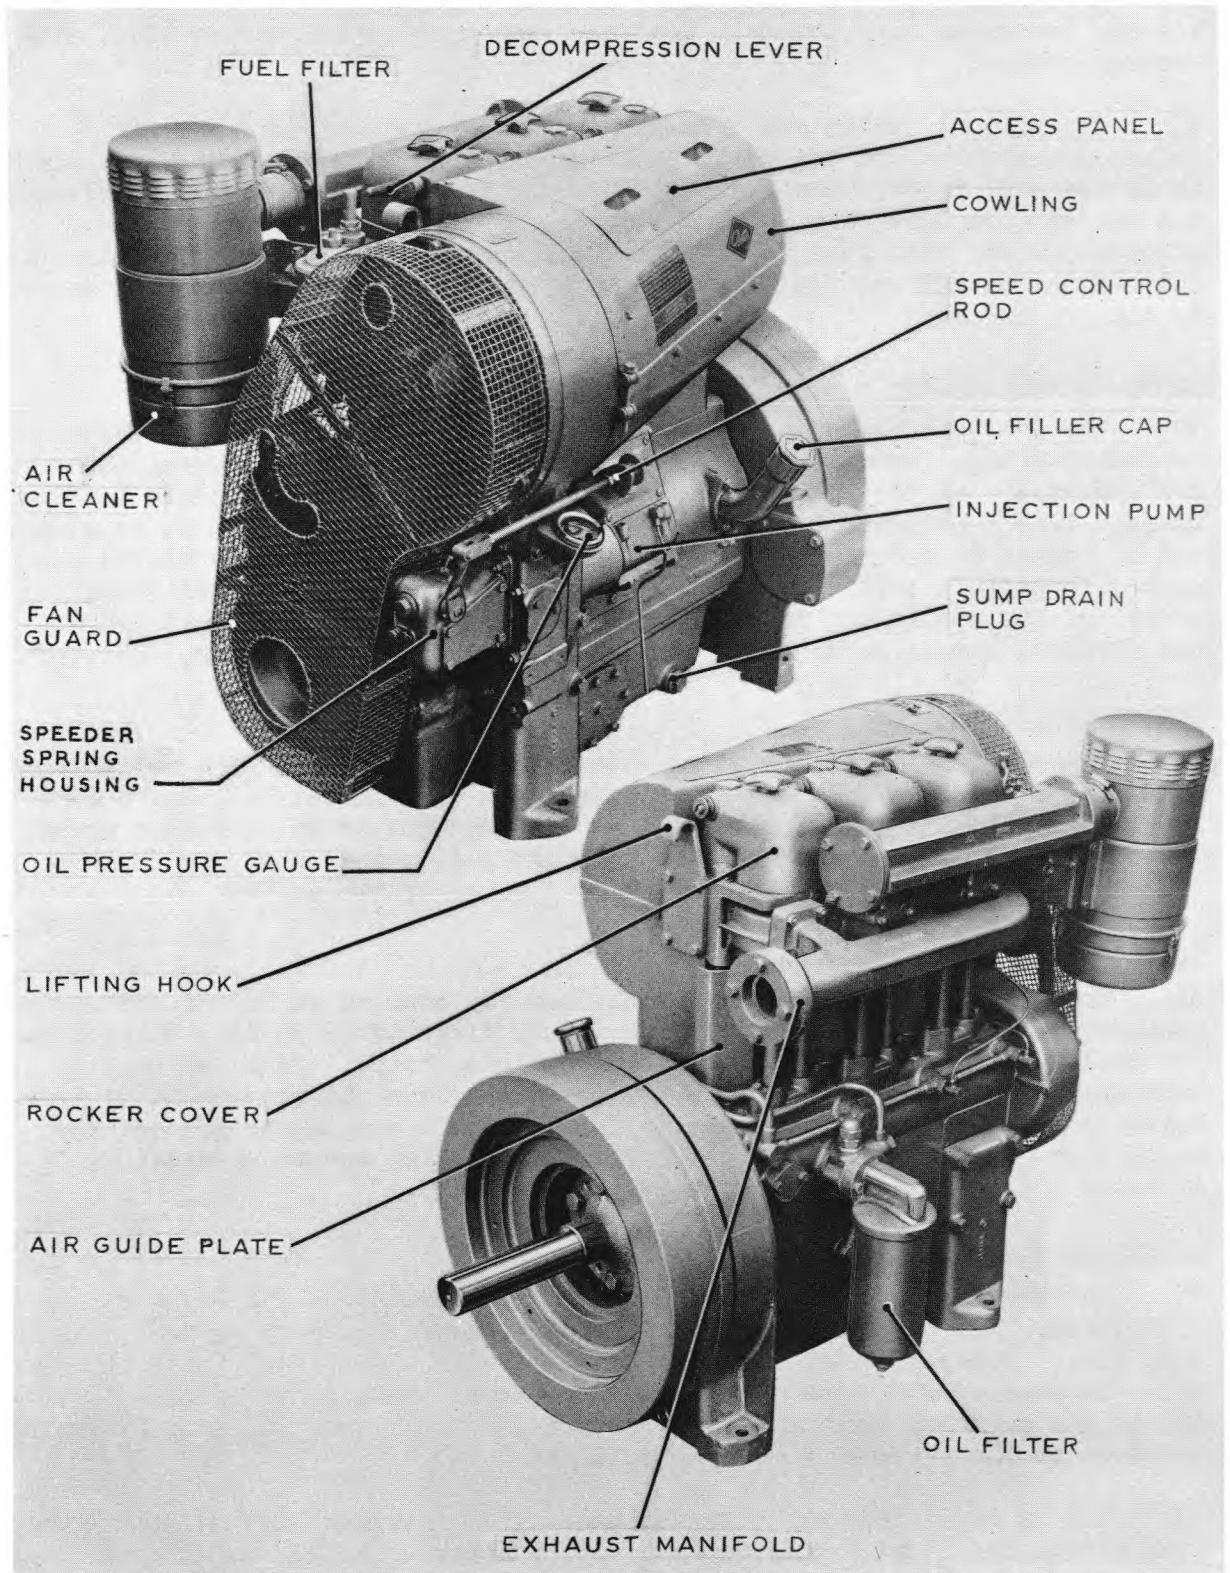

Fig. 1 Petter PD3 engine
1. The Petter PD3 engine (fig. 1, 12, 17, 18) is a three-cylinder four-stroke direct-injection diesel engine with pushrod-operated overhead valves, individual cylinders and detachable cylinder heads. It is air-cooled by a belt-driven axial-flow fan and partially enclosed in cowling which directs the air stream around the cylinders and heads. In general, Unified threads are used except for such parts as pipes and pipe unions and some items of auxiliary equipment.